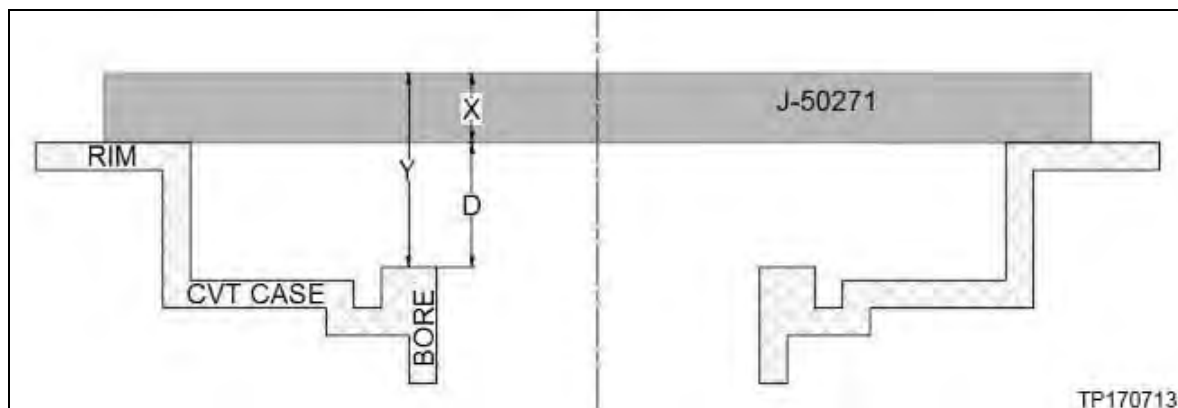

Figure 5M
NOTE: Only if a Gauge Block (J-50271) is not available, measurement "X" (Figure 5M, page 56) will need to be determined for the measuring bar being used. This can be done either with a set of calipers or with Digital Depth Gauge (J-50272).
8. Measure the average distance (**Y**) shown in Figure 5M as follows: